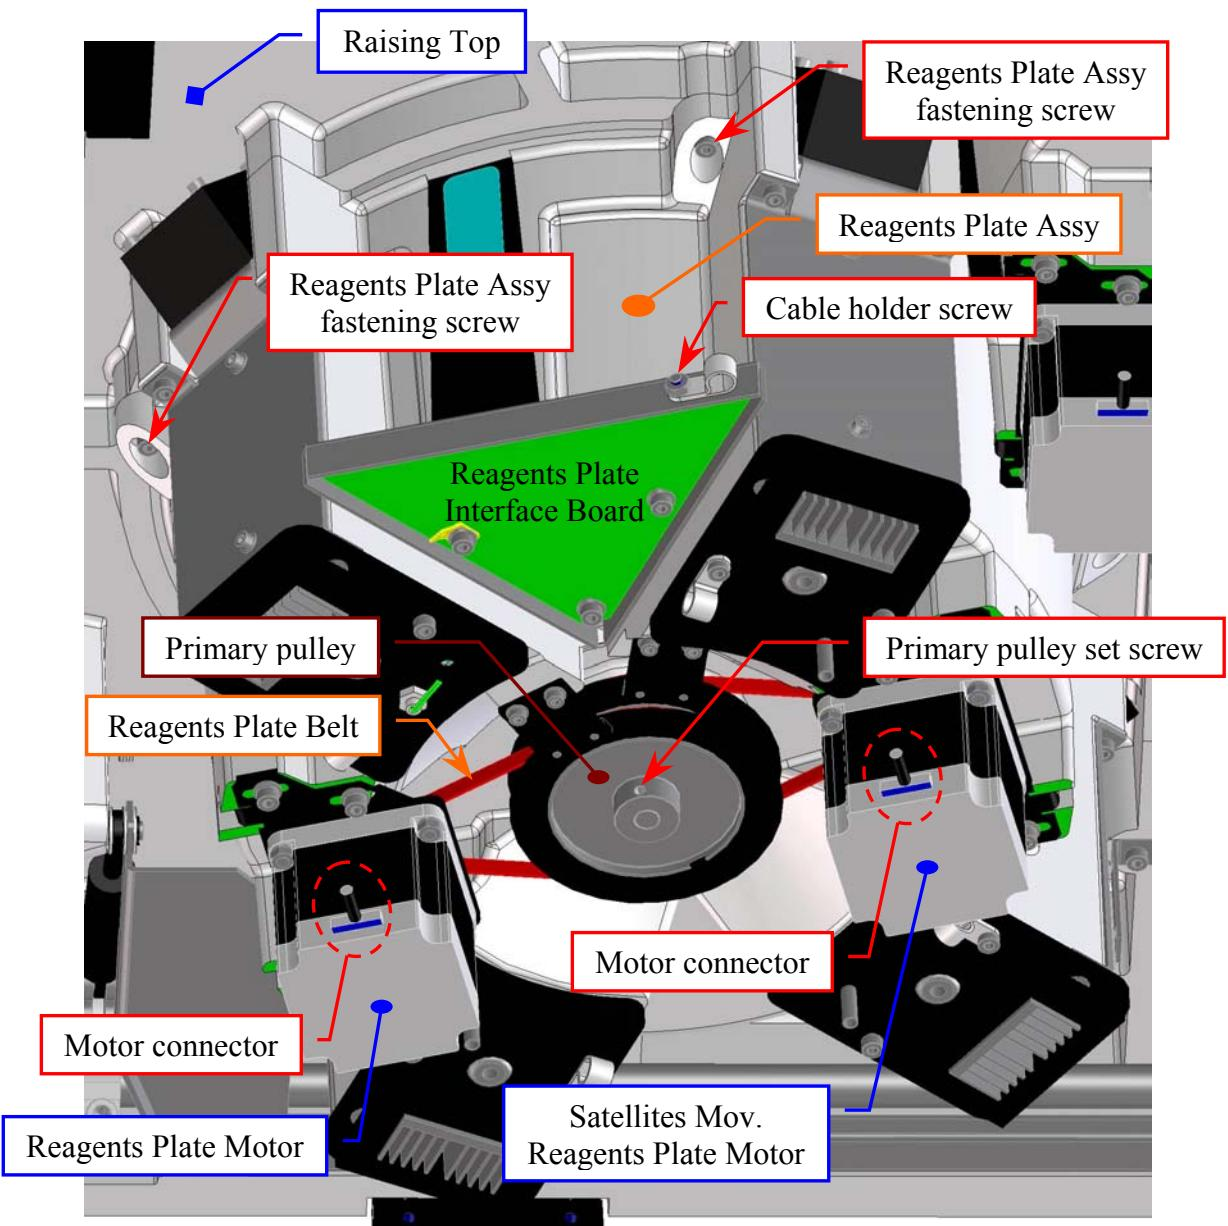
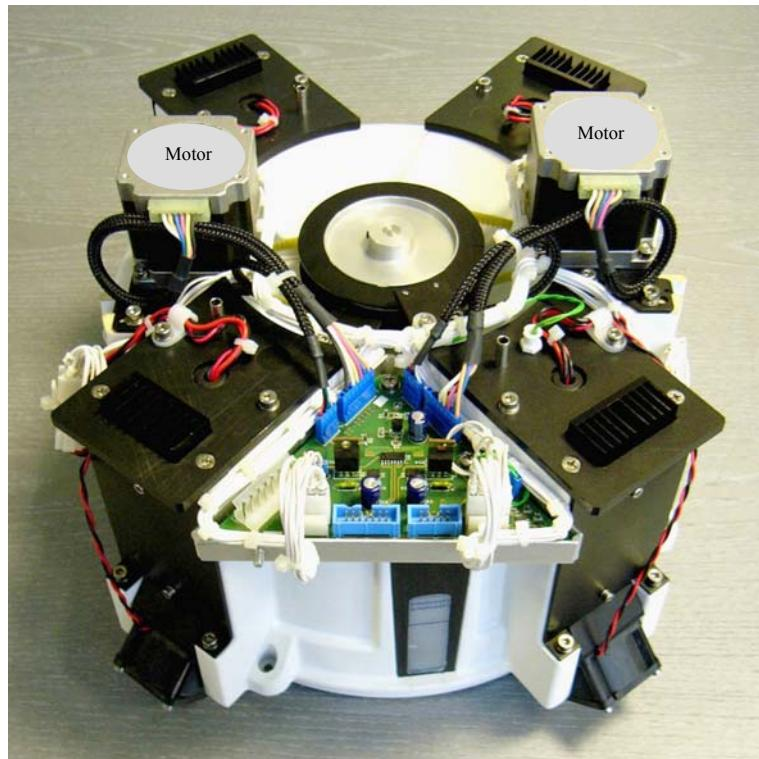

Fig. 75 – Primary pulley of the Reagents Plate Assy
Fig. 77 – Reagents Plate Assy
- b. loosen the two set screws of the primary pulley of the Reagents Plate (**Fig. 75**);
- d. tighten the two set screws of the primary pulley of the Reagents Plate (**Fig. 75**);
5. Unscrew the cable holder screw (Fig. 75), remove the cable holder and put away the relative cables from the Reagents Plate Assy.
6. Unscrew the four Reagents Plate Assy fastening screws (Fig. 75) and take out – moving carefully – the Reagents Plate Assy from its housing.
To replace the Reagents Plate Assy (Fig. 77) perform the following steps:
6. Loosen much the two set screws of the primary pulley of the Reagents Plate (**Fig. 75**).
To replace the plate base (Reagents Plate support having P/N: 05-02271-01) in the Reagents Plate Assy (**Fig. 77**) and the Reagents Plate Assy in the instrument (**Fig. 75**) perform the following steps:
26. Lock on well the primary and secondary pulley over the container and between them, then tighten the two set screws of the primary pulley and the two set screws of the secondary pulley of the Reagents Plate (**Fig. 75**).